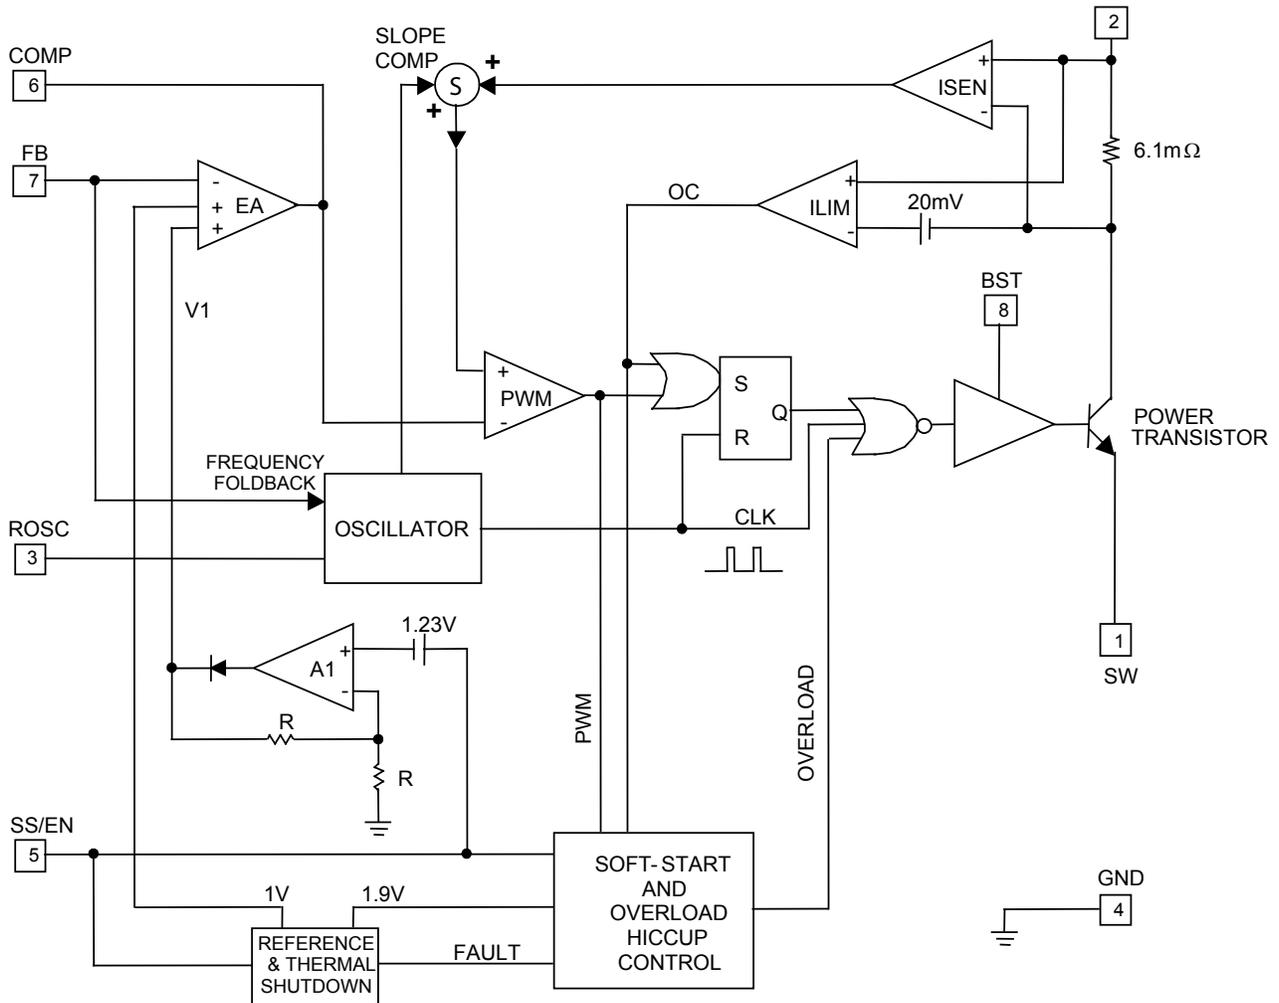

Figure 2. SC4524D Block Diagram
As shown in Figure 2, the switch collector current is sensed with an integrated 5.5mΩ sense resistor. The sensed current is summed with a slope-compensating ramp before it is compared with the transconductance error amplifier (EA) output. The PWM comparator trip point determines the switch turn-on pulse width. The current-limit comparator ILIM turns off the power switch when the sensed signal exceeds the 18mV current-limit threshold.
The error amplifier EA in Figure 2 has two non-inverting inputs. The non-inverting input with the lower voltage predominates. One of the non-inverting inputs is biased to a precision 1V reference and the other non-inverting input is tied to the output of the amplifier  $A_1$ . Amplifier  $A_1$  produces an output  $V_1 = 2(V_{SS/EN} - 1.2V)$ .  $V_1$  is zero and COMP is forced low when  $V_{SS/EN}$  is below 1.2V. During start up, the effective non-inverting input of EA stays at zero until the soft-start capacitor is charged above 1.2V. Once  $V_{SS/EN}$  exceeds 1.2V, COMP is released. The regulator starts to switch when  $V_{COMP}$  rises above 0.4V. If the soft-start interval is made sufficiently long, then the FB voltage (hence the output voltage) will track  $V_1$  during start up.  $V_{SS/EN}$  must be at least 1.83V for the output to achieve regulation. Proper soft-start prevents output overshoot. Current drawn from the input supply is also well controlled.
becomes armed. As the load draws more current from the regulator, the current-limit comparator ILIM (Figure 2) will eventually limit the switch current on a cycle-by-cycle basis. The over-current signal OC goes high, setting the latch B3. The soft-start capacitor is discharged with (ID - IC) (Figure 3). If the inductor current falls below the current limit and the PWM comparator instead turns off the switch, then latch B3 will be reset and IC will recharge the soft-start capacitor. If over-current condition persists or OC becomes asserted more often than PWM over a period of time, then the soft-start capacitor will be discharged below 1.9V. At this juncture, comparator B4 sets the overload latch B2. The soft-start capacitor will be continuously discharged with (ID - IC). The COMP pin is immediately pulled to ground. The switching regulator is shut off until the soft-start capacitor is discharged below 1.0V. At this moment, the overload latch is reset. The soft-start capacitor is recharged and the converter again undergoes soft-start. The regulator will go through soft-start, overload shutdown and restart until it is no longer overloaded.
The PWM latch in Figure 2 is reset every cycle by the clock. The clock also turns off the power transistor to refresh the bootstrap capacitor. This minimum off time limits the attainable duty cycle of the regulator at a given switching frequency. The measured minimum off time is 100ns typically. If the required duty cycle is higher than the attainable maximum, then the output voltage will not be able to reach its set value in continuous-conduction mode.